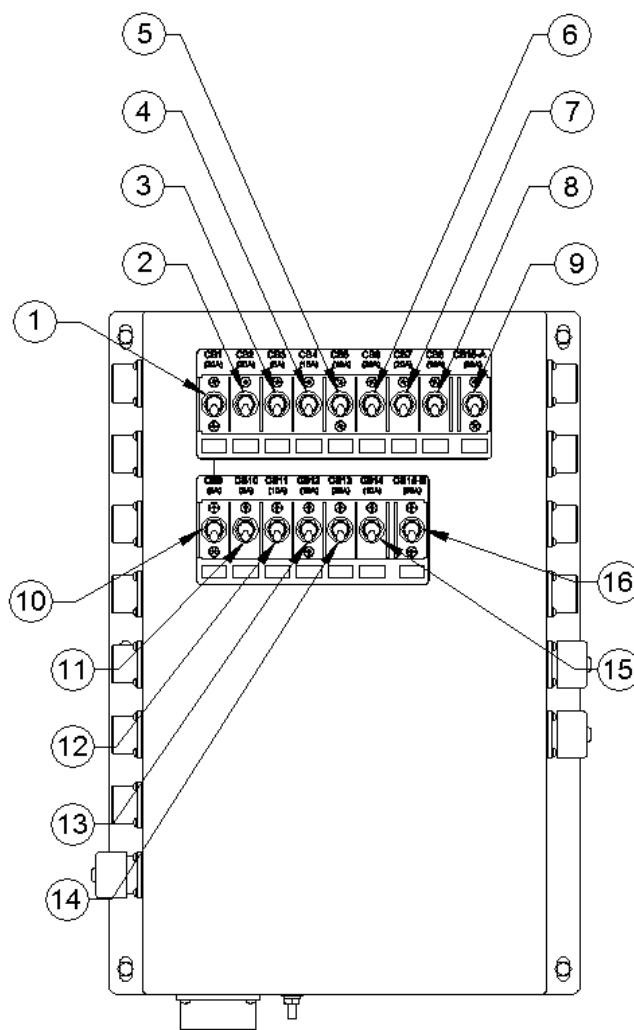
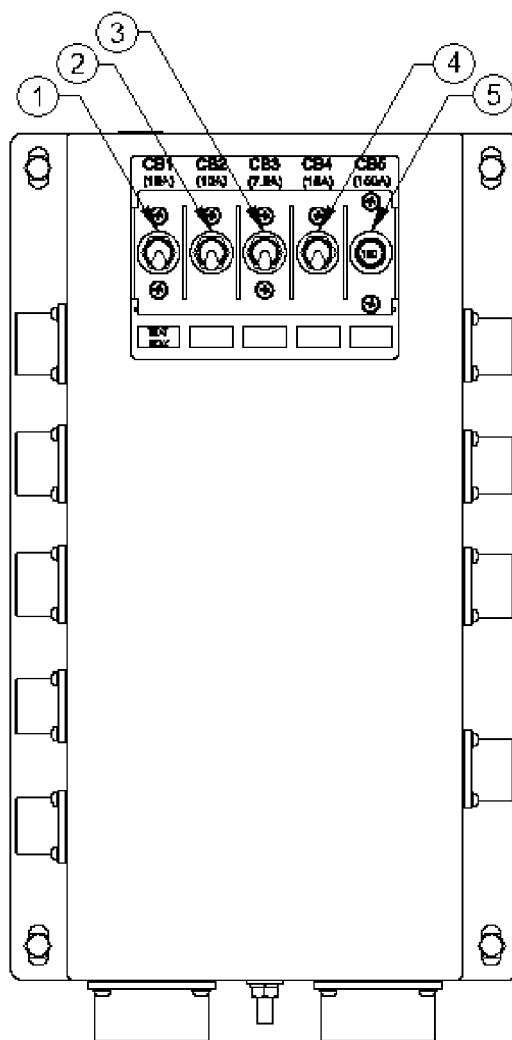

Figure 2-13. Direct Current Power Distribution Unit (DCPDU).
Figure 2-14. Alternating Current Power Distribution Unit (ACPDU).
- (5) Make sure Direct Current Power Distribution Unit (DC PDU) and Alternating Current Power Distribution Unit (AC PDU) circuit breakers are OFF by verifying that the CB4 switch is in the downward position on the AC PDU and the CB15 A switch is in the downward position on the DC PDU. Refer to Figure 2-13 for the DC PDU and Figure 2-14 for the AC PDU.
- (6) Verify power switch, CB15 B (16, Fig. 2-13), is on to charge the UPS battery while the engine is running.
- (7) Place transmission gear selector (8) in N (Neutral).
- (8) Place hand throttle (9) in idle.
- (9) Make sure fuel control (10) is off and fuel shutoff valve is open.
- (10) See Chapter 2 of TM 09674A-10/3 for complete starting procedure.